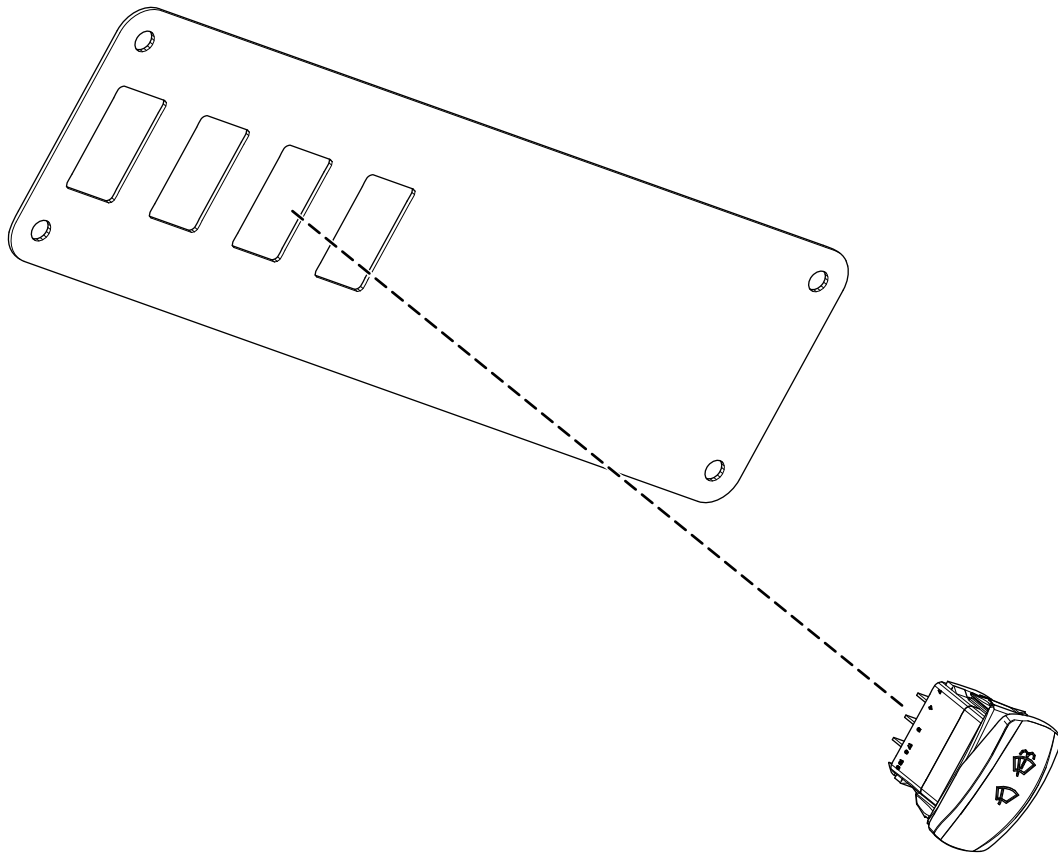

Figure 16
1. Install the switch into the opening of the console switch bracket (Figure 16) from the Overhead Console Kit (Model 08130).